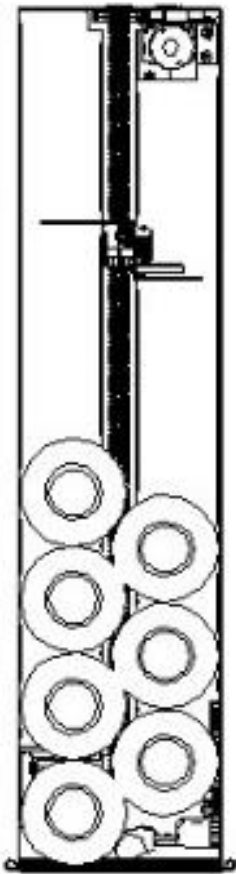

Figure 1
N.B. Independently from the fact that the bottles are in the position of figure 1 or 2, to balance the thrust, the filling must always happen with two bottles touching the paddle as per figure 3.